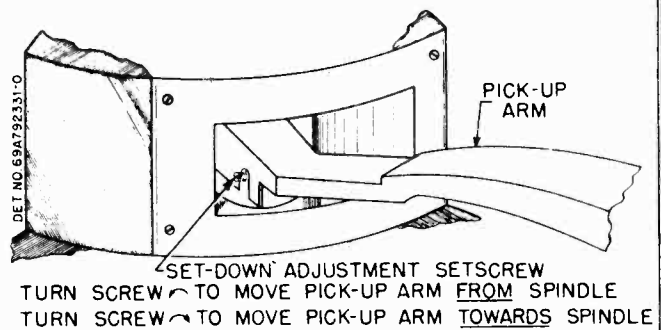

FIGURE 12. NEEDLE SET-DOWN ADJUSTMENT CARTRIDGE REPLACEMENT
4. If the needle does not land on the line, adjust the set-down setscrew (55) located on the pick-up arm (see Figure 12). Turn the setscrew clockwise to move the pick-up arm towards the spindle, or turn it counterclockwise to move the pick-up arm away from the spindle. **IMPORTANT:** Turn the screw very slightly, and repeat steps 3 & 4 until the needle lands exactly on the curved line.